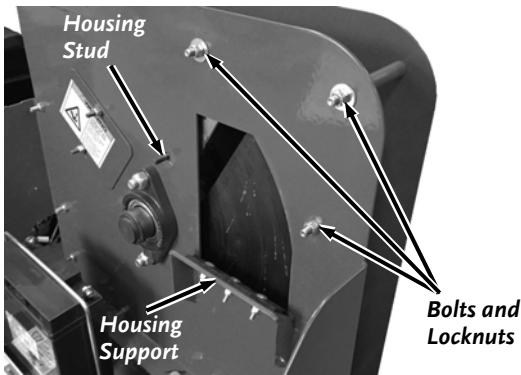

Figure 15a: 16.5
1. Remove and discard the three Shipping Nuts from the Housing Bolts with two 1/2" Wrenches, but leave the Housing Bolts in place (**Figure 15a**)